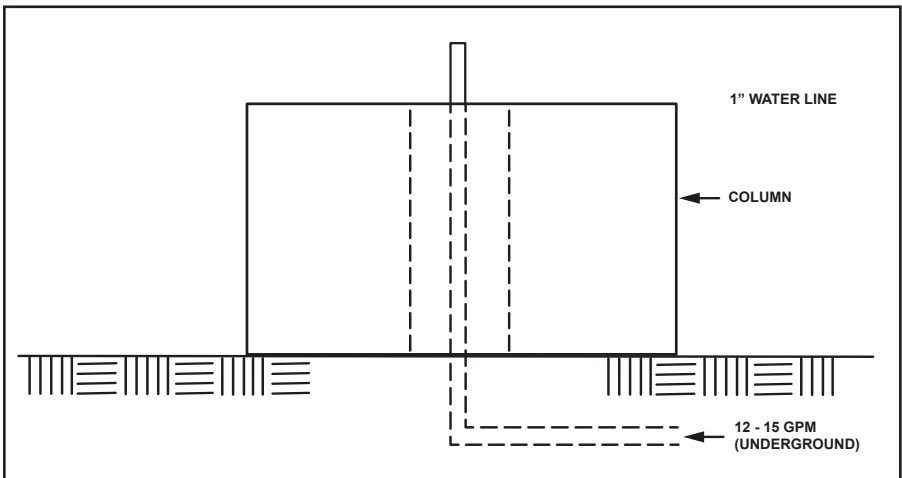

Figure 2. Water Line Column
1. Install a 1" PVC water line in the middle of column. See Figure 2.